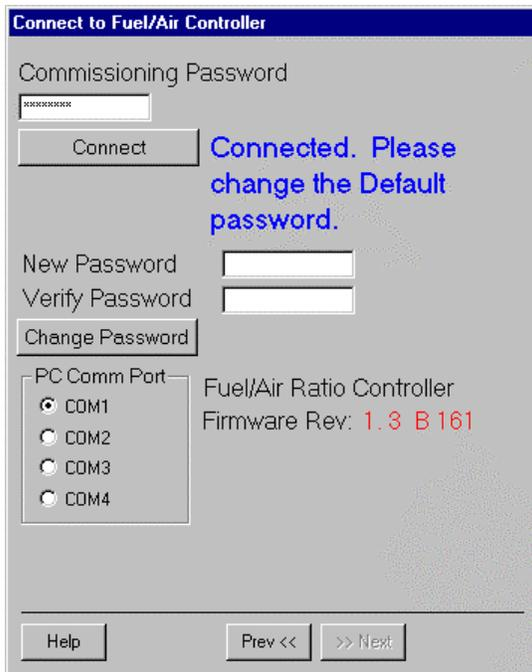

Fig. 3. Connected.
- a. **Commissioning Password** Before you can connect to the system, you must enter a valid password here. See Fig. 3 and 4.